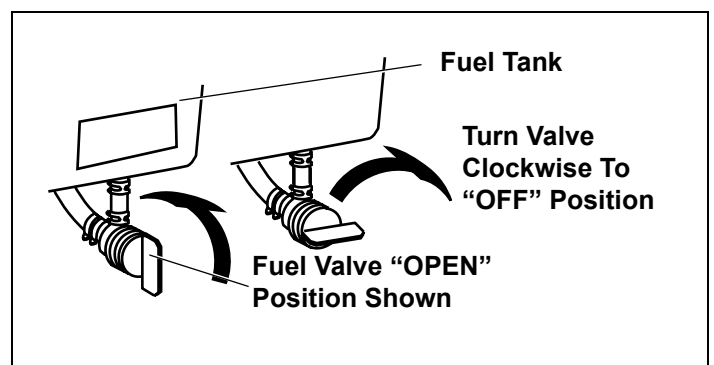

Figure 13. Fuel Valve Positions
2. Be sure fuel valve, if present (see equipment manufacturer's instructions) is open. See Figure 13.